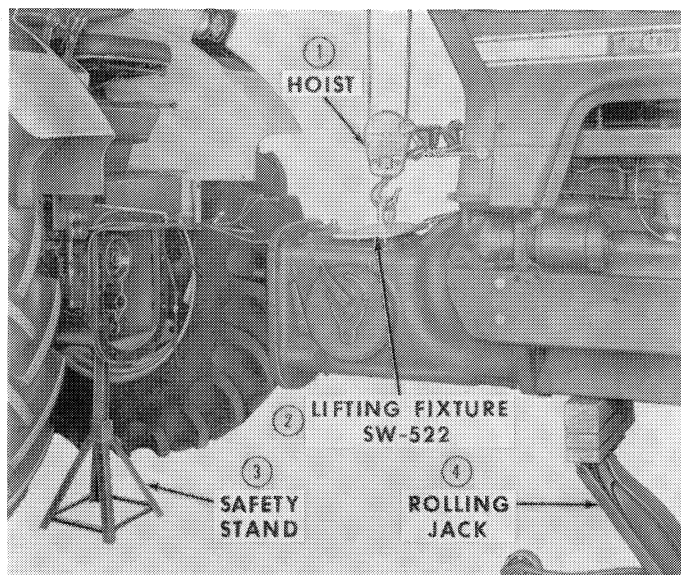

Figure 11
brackets should angle out from the support down to the floor. Refer to page 18 for a sketch of the brackets. A rolling jack must then be placed under the front of the rear axle assembly rather than the safety stand, shown in Figure 11, so the rear axle can be moved away from the transmission.
18. Pull the transmission, engine, and front axle assembly away from the rear axle assembly as shown in Figure 11, or if the tractor is a Row Crop with dual front wheels, move the rear axle assembly away from the front of the tractor.
3. With the lifting fixture, Tool No. SW-522, and hoist attached to the transmission as shown in Figure 11, and a rolling jack under the engine oil pan; move the transmission, engine and front axle as-